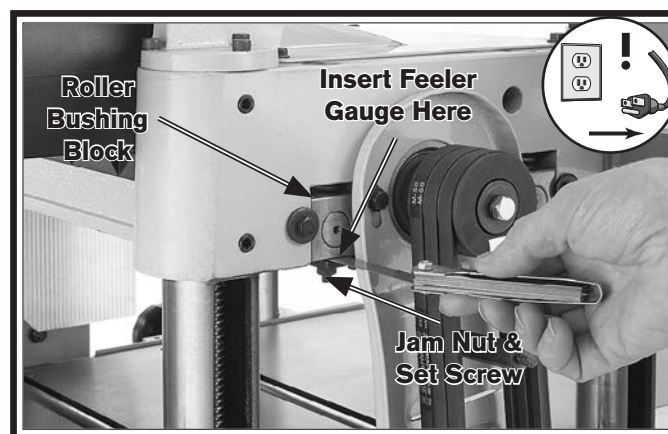

Figure 56. Example of feeler gauge location for adjusting infeed roller height when using wood blocks (one of two locations shown).
7. Loosen jam nuts and set screws on each side of infeed roller (see **Figure 56**).
8. Using feeler gauge, adjust set screw so it is 0.040" from roller bushing block (see **Figure 56**), then tighten jam nut. Repeat on other side of infeed roller.